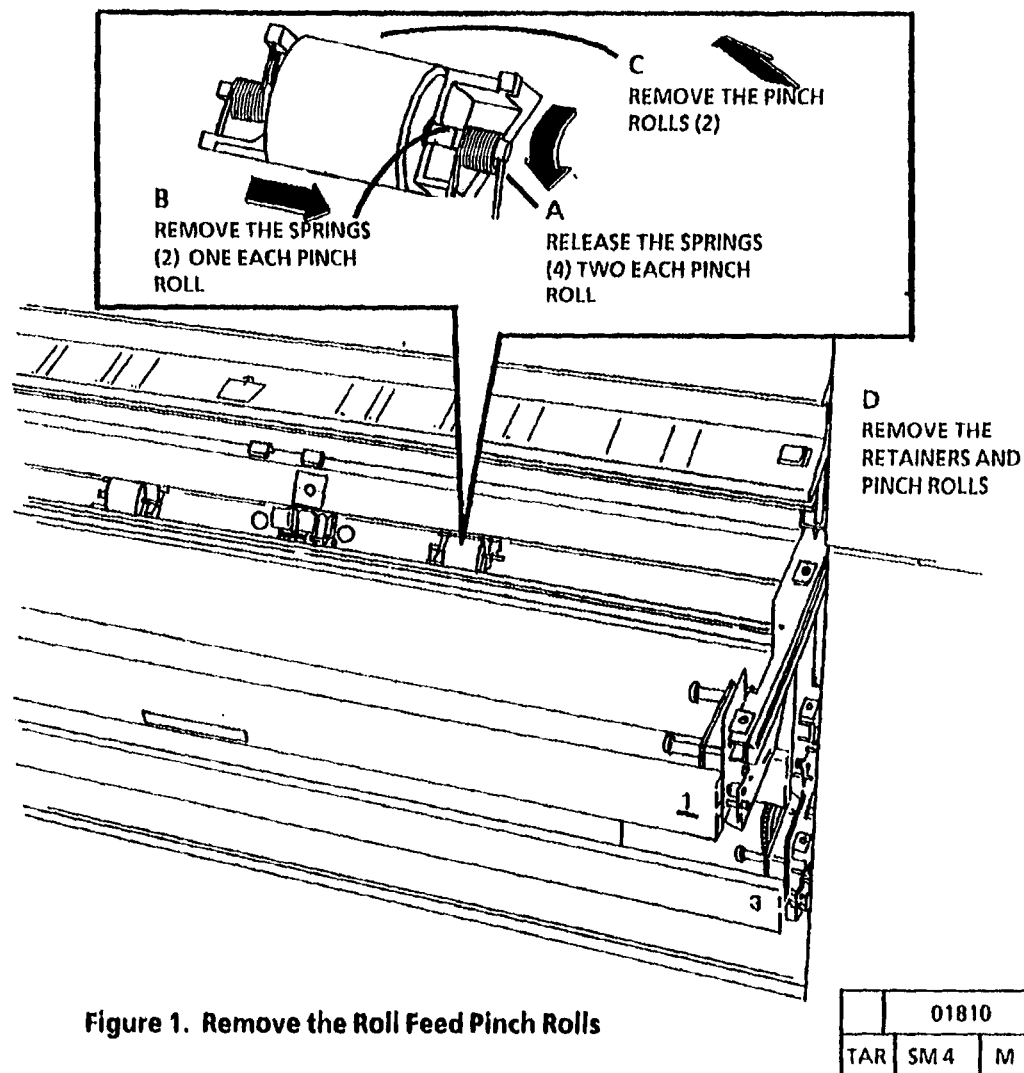

Figure 1. Remove the Roll Feed Pinch Rolls
5. (Figure 1): Remove the Roll Feed Pinch Rolls.